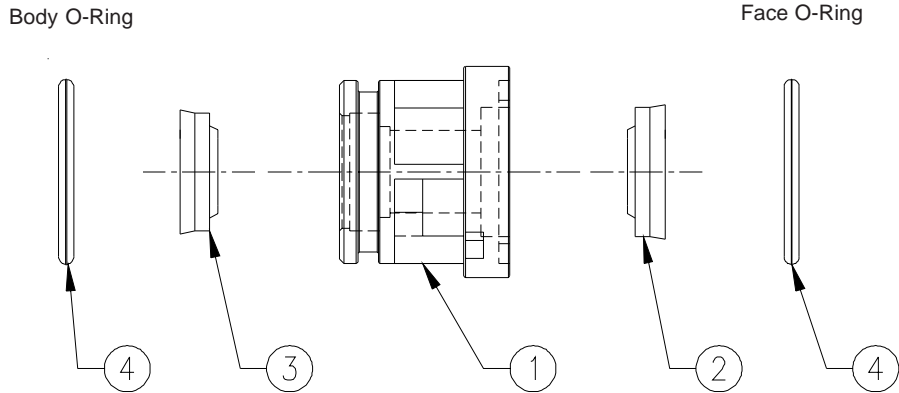

FIGURE 6
- 2) Carefully remove the intake and discharge manifolds from the Injection Pump. For greatest convenience, remove the Pump from the Module. Ref. replacement parts list, items 8, 10, & 12.
- 4) Locate the pry bar slots on the underside of the crankcase just behind the end of the poly-pak assembly (Item 1, Figure 6). Using a flat blade screwdriver in this slot, pry out poly-pak assembly.
NOTE: These o-rings are made of a chemical resistant compound. Ref. Figure 6 & 7.
Reference Figures 6 & 7.